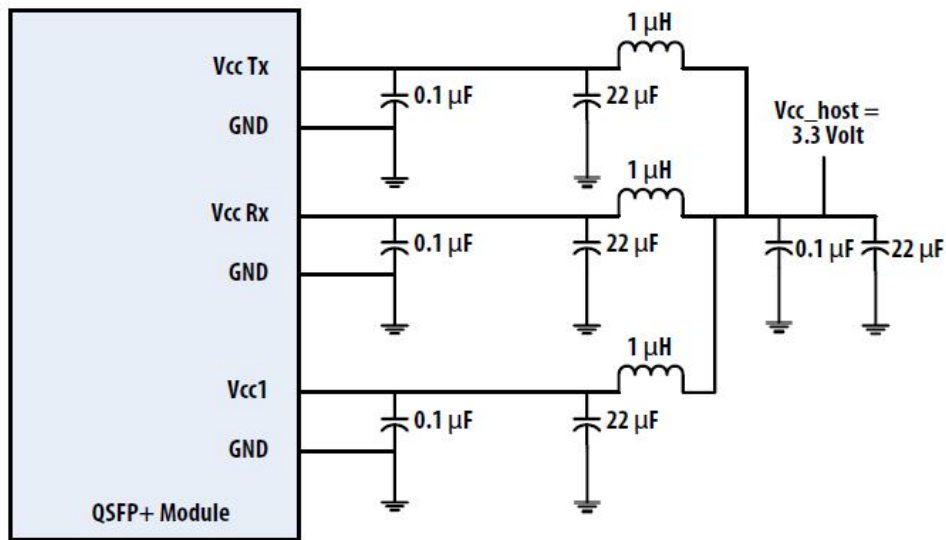

Figure 3. Recommended Power Supply Filter
2.VccRx, Vcc1 and VccTx are the receiving and transmission power suppliers and shall be applied concurrently. Recommended host board power supply filtering is shown in Figure 3 below. Vcc Rx, Vcc1 and Vcc Tx may be internally connected within the module in any combination. The connector pins are each rated for a maximum current of 1000mA.